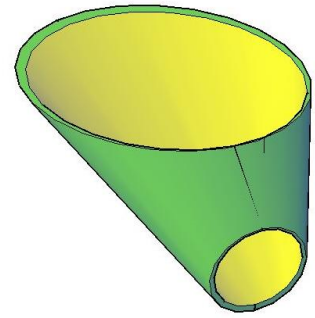
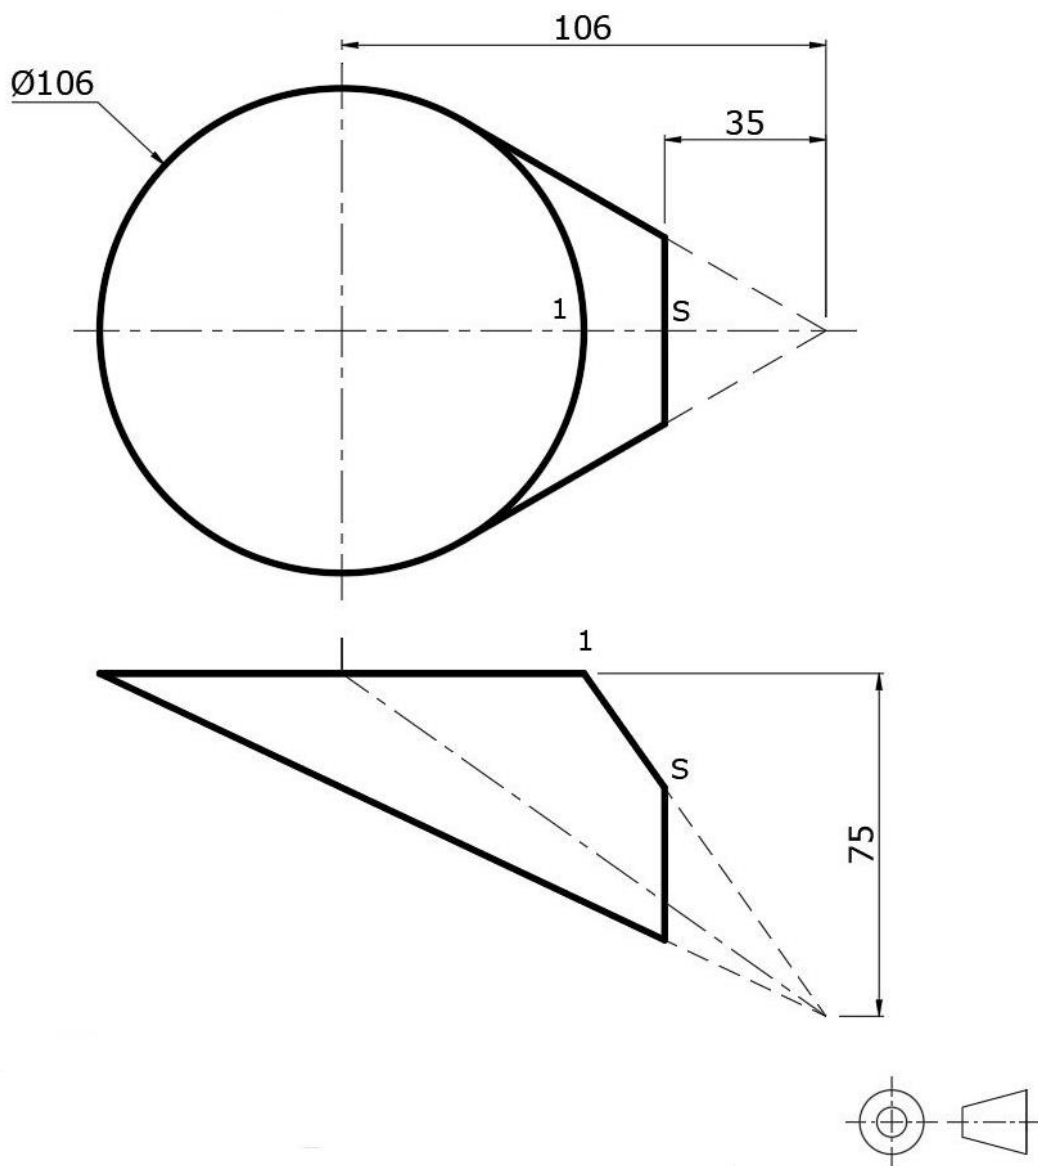

Figure 2a
Figure 2b
An illustration of an offset sheet metal funnel is shown in Figure 2a. The funnel consists of an inverted truncated oblique cone. Details of the oblique cone are given in Figure 2b.
- Copy Figure 2b. (1)
- Draw the generators in both views. (1)
- Construct the necessary true lengths. (3)
- Construct a full surface development of the truncated oblique cone. (8)